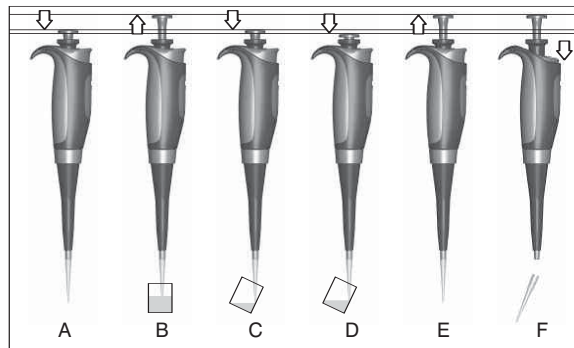

Fig. 4
- Wait for about 1 second before withdrawing the tip from the aspirated sample, fig. 4.